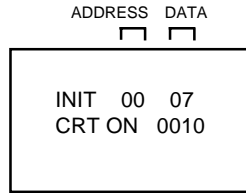

FIG.1
2. Press both VOL. DOWN button on the set and Channel button **(6)** on the remote control for more than 1 second. ADDRESS and DATA should appear as FIG 1.